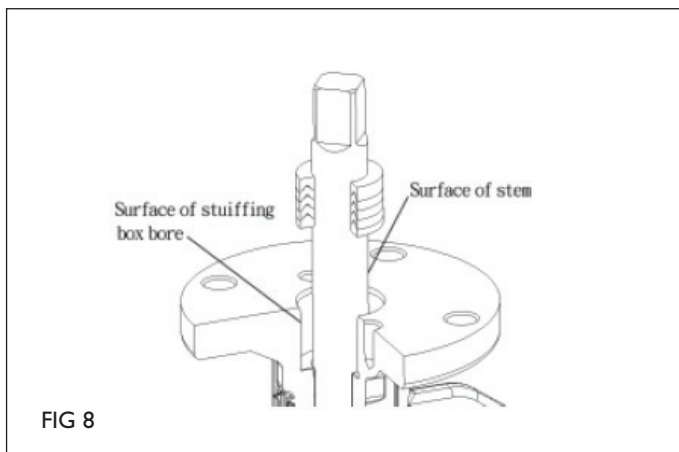
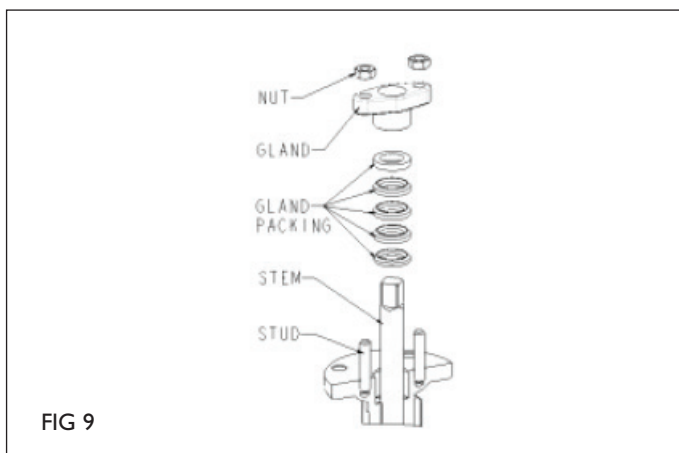

FIG 8
FIG 9
3. Insertion of the gland packing is; first place the base of the packing and then V-shaped packing one by one as shown in the Fig 8 and Fig. 9.